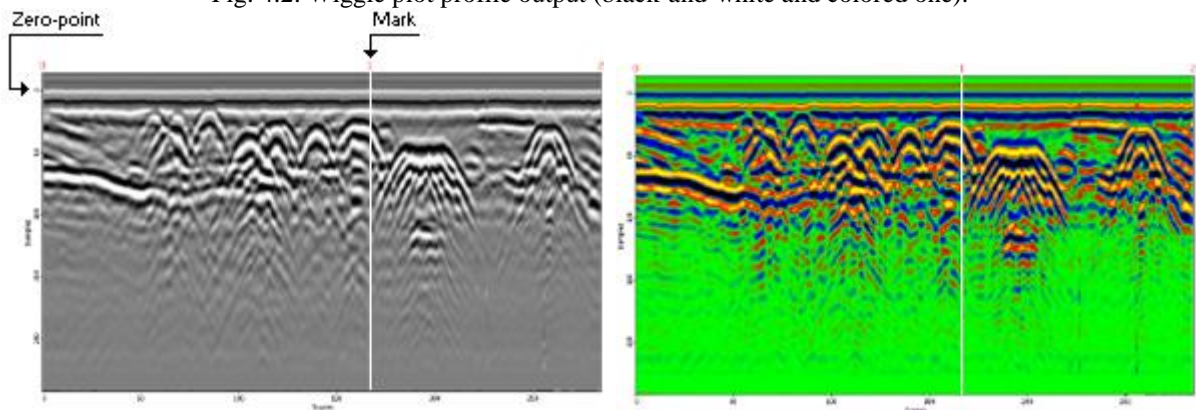

Fig.4.3 Line scan output (grayscale and colored one).
- **Line scan** – is a method of the profile output, where traces are located vertically, close to each other, and are drawn as vertical lines. The color at each point on the trace line depends on the amplitude of the corresponding trace sample according to the selected color scale. The line scan examples are shown in Fig. 4.3.
- **Mark** – it's a feature of some profile trace, indicating some uniqueness of this trace and, consequently, a point of the profiling route. Marks are used to bind the profile to the terrain. User is able to add marks by pressing the button while passing any landmarks on the ground or pre-placed pickets. These marks will be displayed along with the profile, while its output. Marks examples you can see in Fig.4.3.
*Note: The most informative output method is the **line scan** in the **grayscale** palette (see Fig. 4.3, left side).*